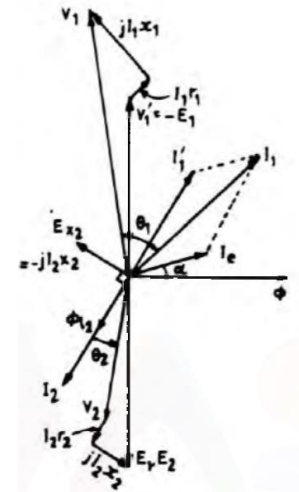

Fig. 10 Phasor diagram of actual transformer under load
- Phasor diagram of actual transformer under load is depicted in Fig. 10.